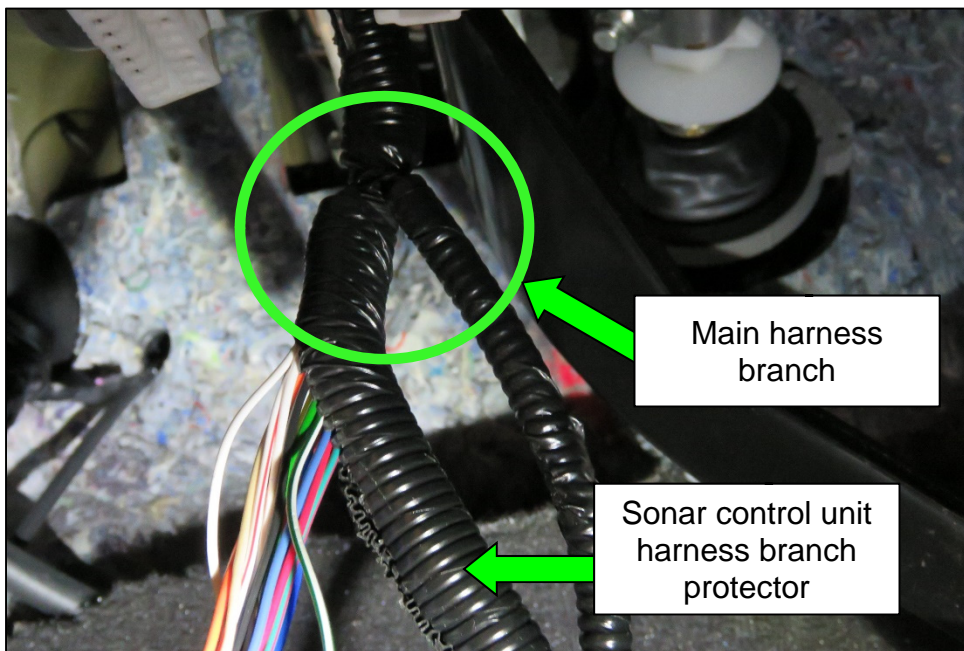

Figure 5
5. Carefully pull back approximately 100 mm (4 inches) of the outer sonar control unit harness branch protector (Figure 5).